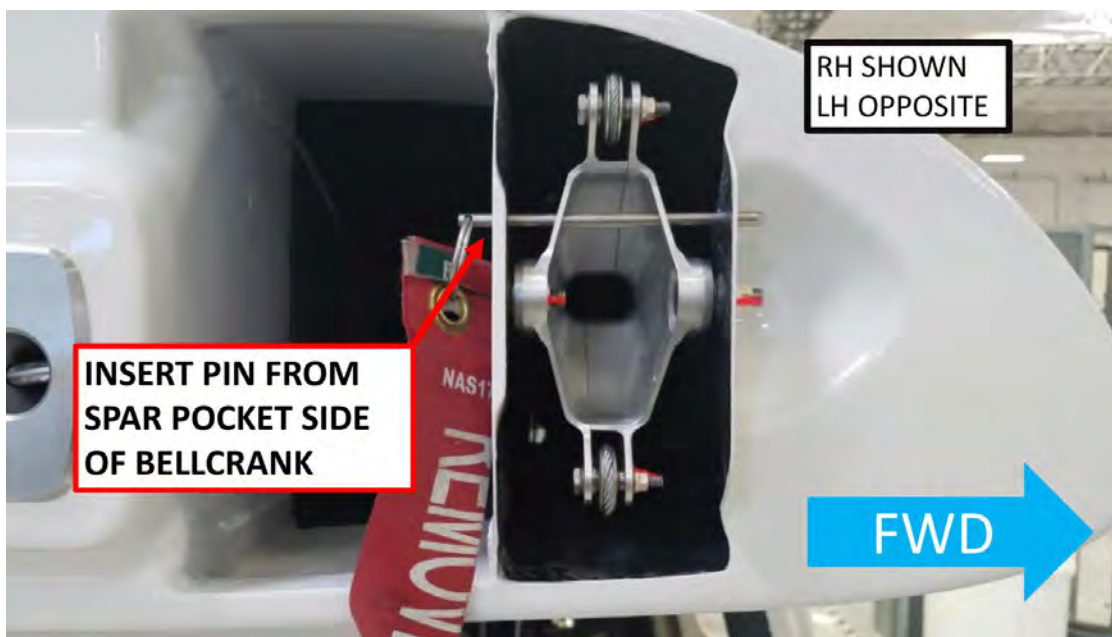

FIGURE 10-16
9. Fold both aircraft wings and install 2X .1875 in diameter rig pins at both of the wing socket bell-crank. See Figure 10-16.